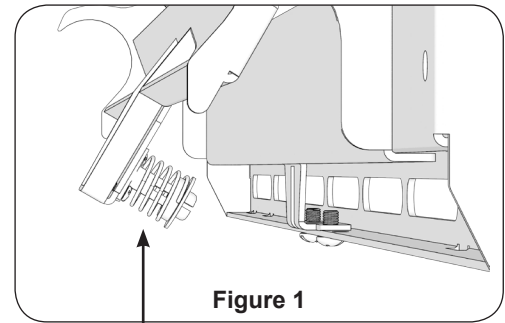

Figure 1
- 3) Mark the straw or toothpick 1/8" above the depth of the threaded insert, as shown in Figure 1.
1. Push evenly in the front of the LMV to release the single latch spring lock (Figure 1).